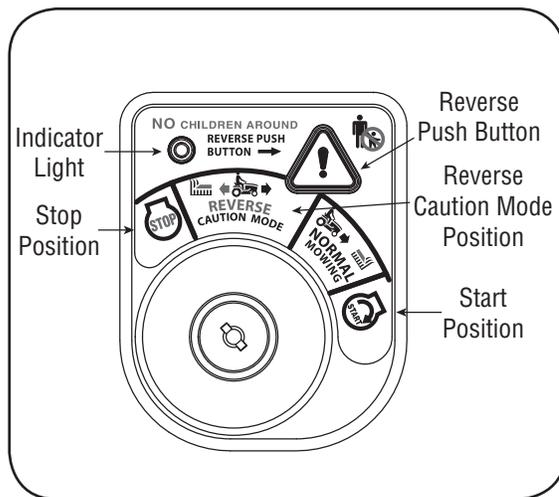

Figure 4-5
- Turn the key from the **NORMAL MOWING** (Green) position to the **REVERSE CAUTION MODE** (Yellow) position of the key switch module. See Figure 4-5.
- Depress the **REVERSE PUSH BUTTON** (Orange, Triangular Button) at the top, right corner of the key switch module. The red indicator light at the top, left corner of the key switch module will be **ON** while activated. See Figure 4-5.